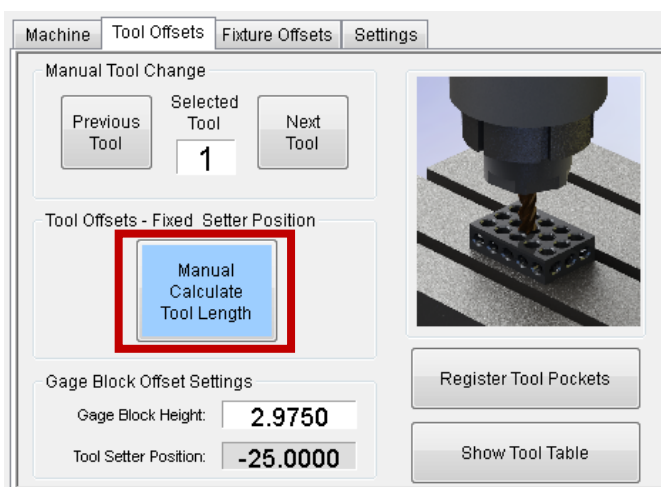

FIGURE 11 - TOOL WINDOW
4. Go to the **Tool Offset** tab (Figure 11)
5. Go to the **Tool Offset** tab (Figure 11)